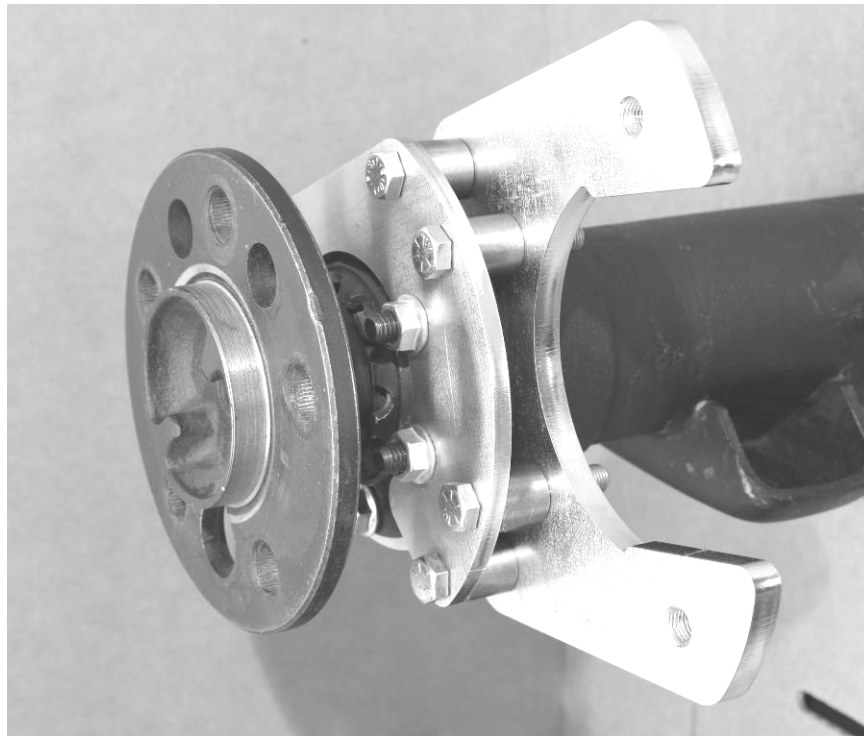

Figure 4 – Caliper Mounting Brackets Fully Installed
7. Using the provided 3/8"-24 x 2" Grade 8 Hex Head Bolts along with the provided spacers, install the Secondary Caliper Mounting bracket to the inboard side of the Primary Caliper Mounting Bracket. The spacers install between the mounting two brackets. Once in position, use the 3/8"-24 Nyloc Lock Nuts that were provided and tighten and torque to 40 ft/lbs. Figure 4 below shows a complete bracket installation.